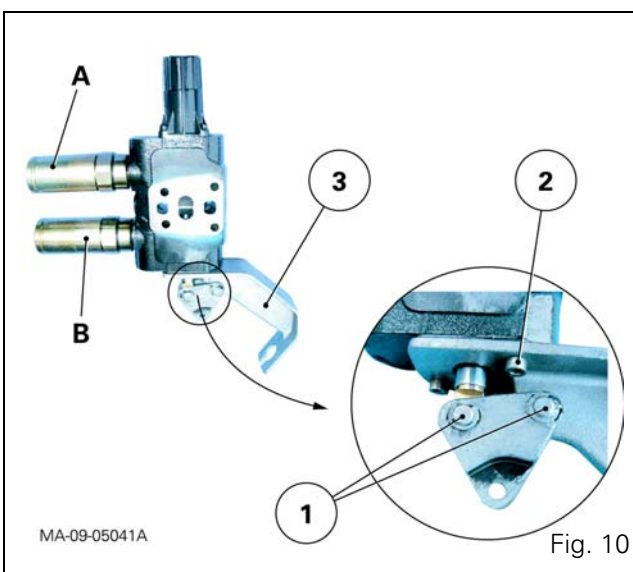

Fig. 10
14. If necessary (Fig. 10):
- Remove quick-disconnect couplings (A) and (B).
- Remove pins (1) and screws (2). Separate the cable support (3) from the spool valve.